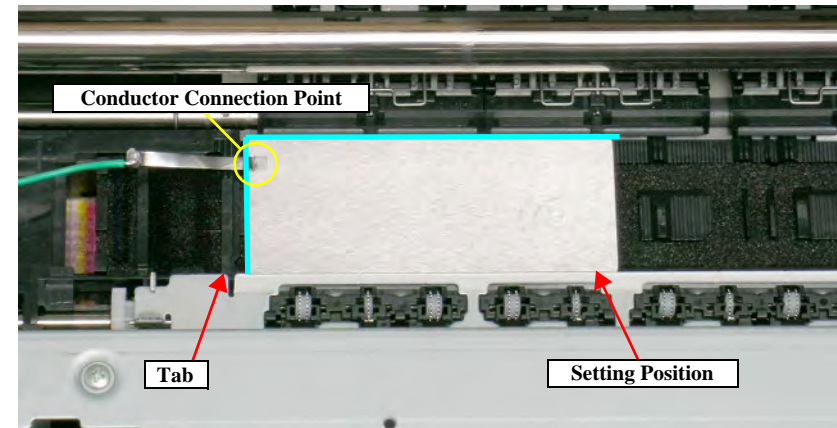

Figure 5-13. Setting the Adjustment Gauge
- Left direction: Release the left end of the Gauge from the Tab on the Front Paper Guide in *Figure 5-13*.